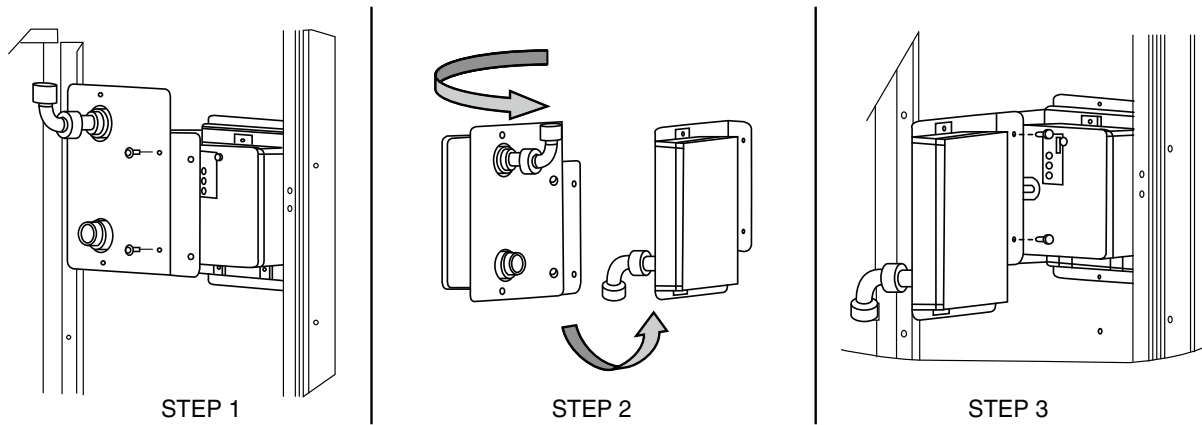

Fig. 109 — Completing Installation of Return Air Smoke Sensor
1. Unscrew the two screws holding the Return Air Smoke Detector assembly. See Fig. 109, Step 1.
3. Turn the assembly 90 degrees and then rotate end to end. Make sure that the elbow fitting is pointing down. See Fig. 109, Step 2.
4. Screw the sensor and detector plate into its operating position using screws from Step 1. See Fig. 109, Step 3.